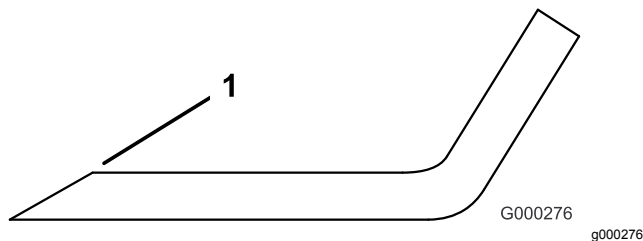

**Figure 89**
2. Examine the cutting ends of the blade carefully, especially where the flat and curved parts of the blade meet (Figure 89).
**Note:** Because sand and abrasive material can wear away the metal that connects the flat and curved parts of the blade, check the blade before using the mower. If you notice wear (Figure 89), replace the blade.